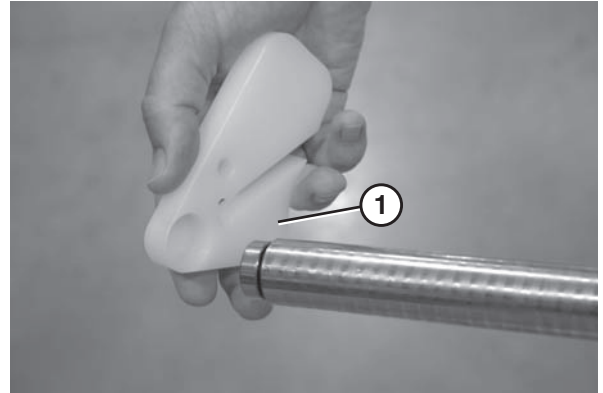

Figure 91
2. Remove the nose bar puck holders (Figure 91, item 1).